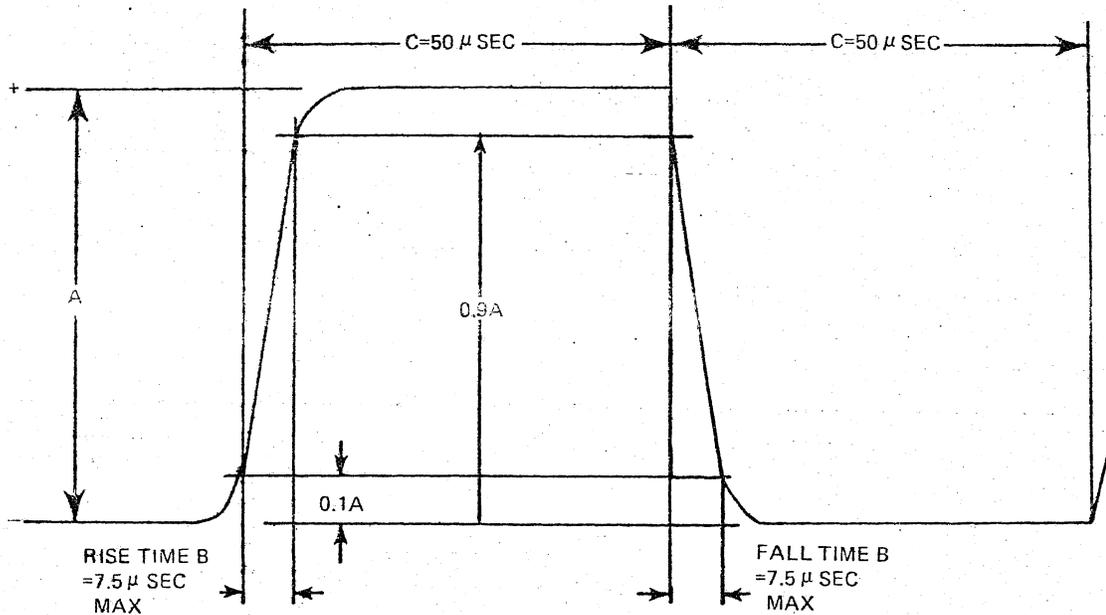

FIG. 1
3.05 Verify that the signal present on card connector pin 2 conforms to the waveform shown in Figure 1.
3.09 Verify that the signal present on card connector pin 2 conforms to the waveform shown on Figure 1.
3.10 When testing a card with a balanced terminal interface, add a resistor between pins 4 and 6 and verify that the signal on pin 2 conforms to the waveform shown on Figure 1.